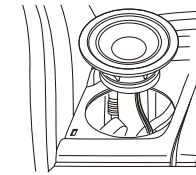

Fig.9
6. Mount the subwoofer into the rear tray with the supplied screws. (Fig.9)